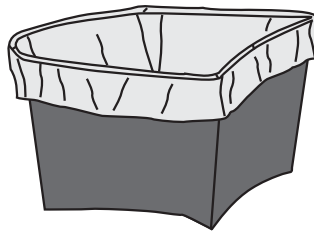

Fig. 6
-  **Suggestions** (only for ES500, ES500S and ES700 models): to reduce the cleaning procedures to a minimum we suggest placing a biodegradable plastic bag inside the pulp container and folding the top of the bag over the edge of the pulp container (see Fig. 6). By using this method, once you have finished using the appliance, you can put the waste directly into a composting or waste bin.
Suggestions (only for ES500, ES500S and ES700 models): to reduce the cleaning procedures to a minimum we suggest placing a biodegradable plastic bag inside the pulp container, folding the top of the bag over the edge of the pulp container (see Fig. 6). By using this method, once you have finished using the appliance, you can put the waste directly in a composting or waste bin.